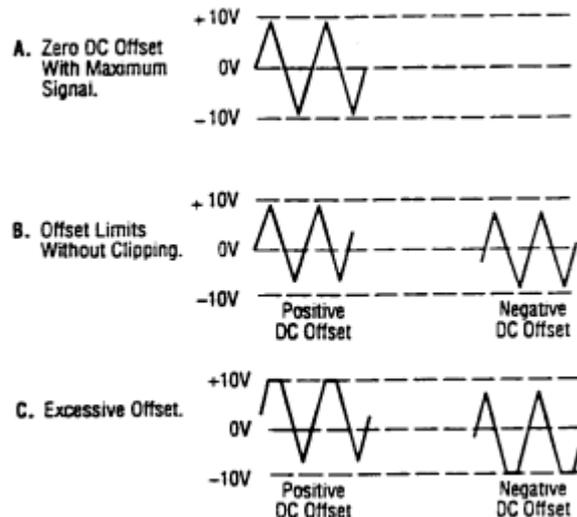

Figure 3. Use of DC OFFSET Control
- Adjust the amplitude of the output as desired using the **OUTPUT LEVEL** control (10). Rotation of this control varies the amplitude from maximum to 20dB below maximum. An additional attenuation of -20dB is available by pushing in the **-20dB** switch (5). The attenuation factors can be combined for a total of -40dB. The maximum signal level is 10V p-p (into 50Ω).
- A DC component can be added to the output signal by pushing in the **DC OFFSET** switch (4) to enable operation of the **DC OFFSET** control (11). Rotation of this control adds a positive or negative DC component to the output signal. The DC component introduced is independent of the **OUTPUT LEVEL** control and can be varied by ± 10 volts open circuited or ± 5 volts into 50Ω. The DC Offset does not affect the **TTL/CMOS** output jack. The effect of DC OFFSET is shown in Fig. 3.
6. Remember that the output signal swing of the generator is limited to ±10 volts open circuited or ±5 volts into 50Ω applies to the combined peak-to-peak signal and DC offset. Clipping occurs slightly above these levels. Fig. 3 illustrates the various operating conditions encountered when using the DC offset. If the desired output signal is large or if a large DC offset is required, an oscilloscope should be used to make sure that the desired signal is obtained without undesirable clipping.